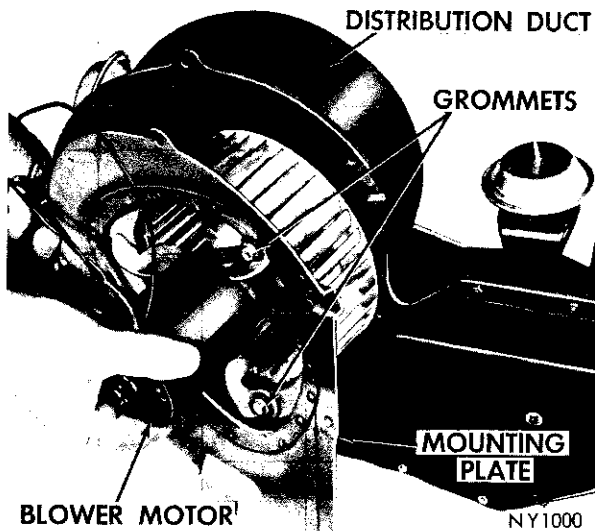

Fig. 49—Removing the Blower Motor
- (1) Disconnect the battery ground cable.
- (2) Disconnect the heater ground wire at the windshield wiper motor mounting bracket and disconnect the blower and clutch circuit wires from the harness connectors.
- (3) Disconnect the vacuum hoses and the actuator rods from each vacuum unit. Remove the hoses from their attaching clips.
- (4) Disconnect the distribution duct damper control cable.
- (5) Remove the temperature control valve capillary from the engine-side housing.
- (6) Remove the three screws attaching the distribution duct to the dash panel (one is located to the left of the recirculating door and to the right of brake pedal bracket; one below the floor outlet at passenger side, and one screw is located at the windshield wiper motor ring link pivot).
(7) Remove the housing and the blower by pulling down and out of driver's compartment. Remove the blower, mounting plate and motor (See Fig. 49).